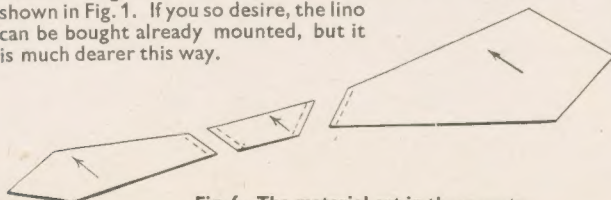

Fig. 6—The material cut in three parts
When the whole of the cloth has been printed and has dried, you are now ready to cut out your tie. This should be cut out in three parts, as shown in Fig. 6. The actual size depends on your own taste. The arrow indicates the grain of the cloth. A narrow piece of material should also be cut to form the lining. The three pieces (A), (B) and (C) should next be stitched together along the dotted lines and Fig. 7 is then formed.